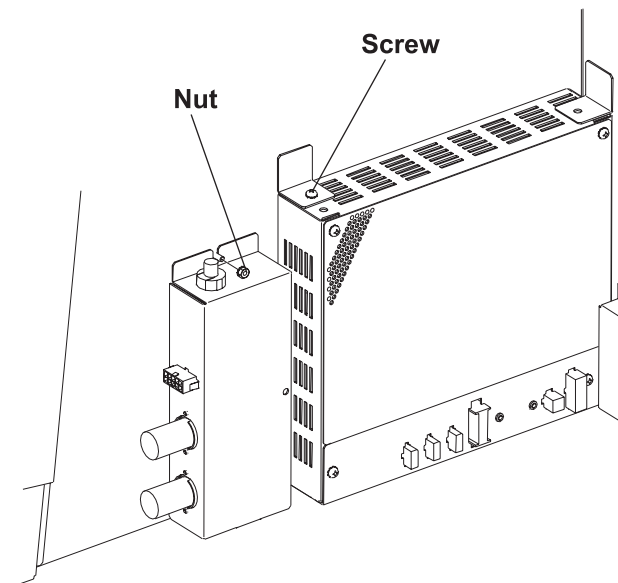

Figure 4-29 Removing the DC Power Unit
4. Remove the screw on the top of the DC power unit and remove the unit from the machine (see *Figure 4-29 Removing the DC Power Unit*).